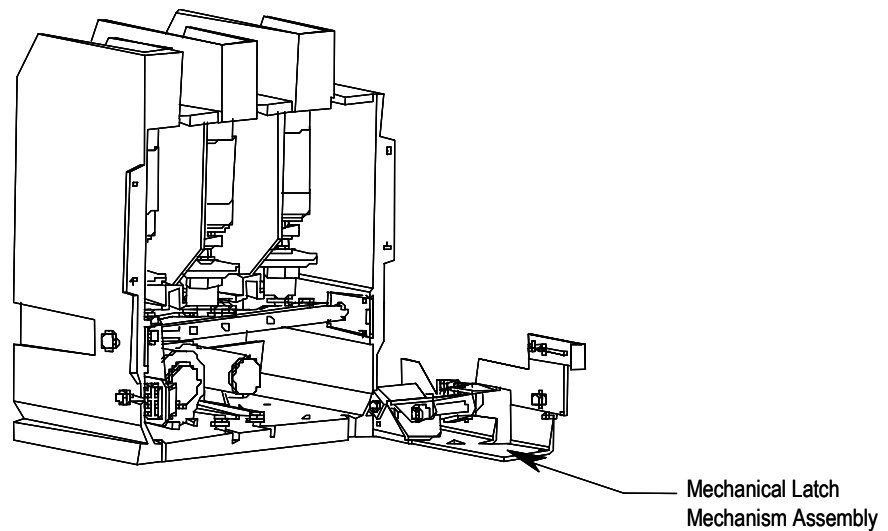

Figure 4.20 – Access to Replace Coil
4. Pull the latch assembly forward and out of the contactor as shown in Figure 4.20. The loose mounting bolts can be re-installed later. The trip coil leads are secured with wire ties at the back of the contactor, clip the ties to allow removal of the leads.